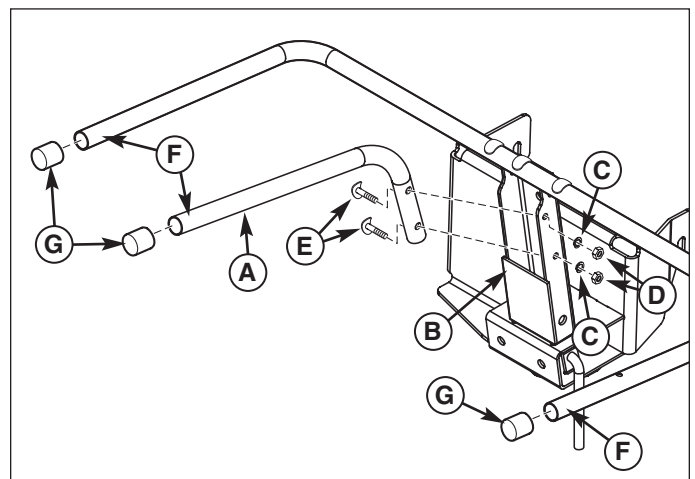

Figure 10. Install Center Tube and End Caps
1. Install the center tube (A, Figure 10) to RH side of channel assembly (B) as shown. Secure with 5/16-24 screws, 5/16 lockwashers (C) and 5/16-24 nuts (D).
2. Install the end caps (G) to tube ends (F) as shown.